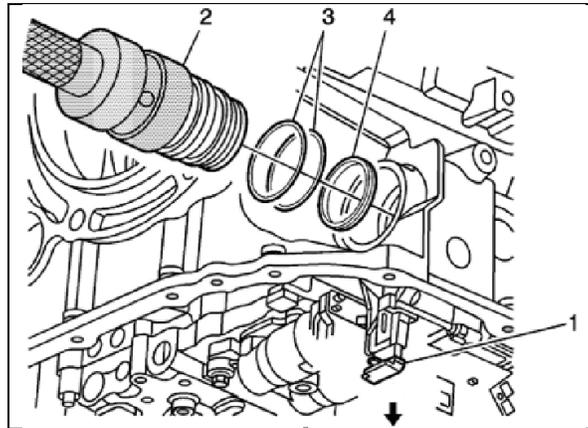

Figure 5
7. Pull down on the slide lock (1). See Figure 5.
8. Pull the sleeve straight out (DO NOT TWIST) using DT-47715 Electrical Connector Passage Sleeve Remover/Installer and J-42183 Driver Handle (2). Refer to Figure 5.